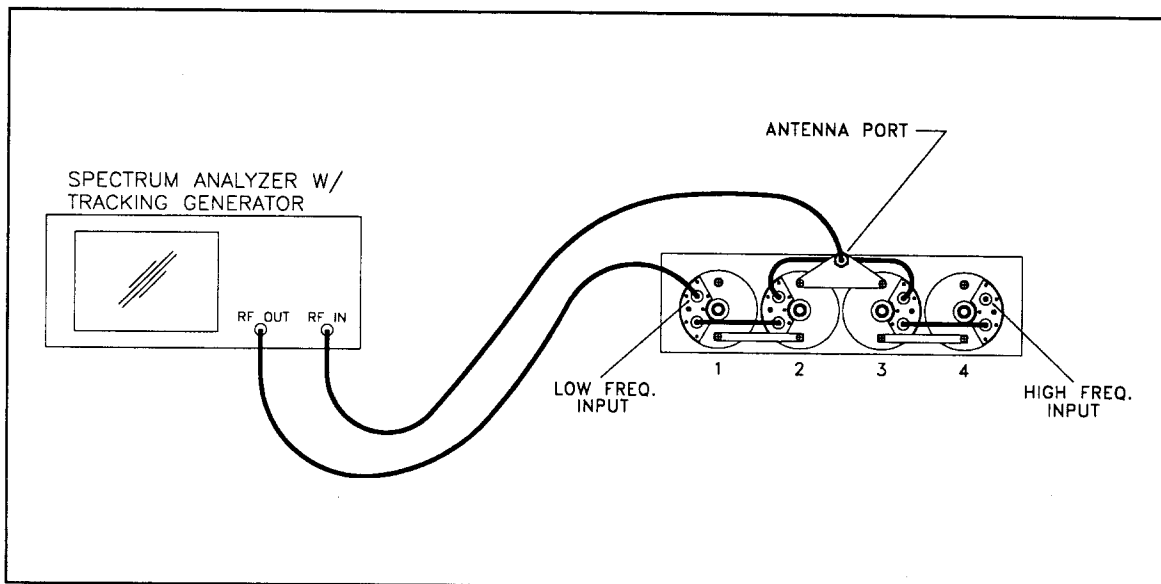
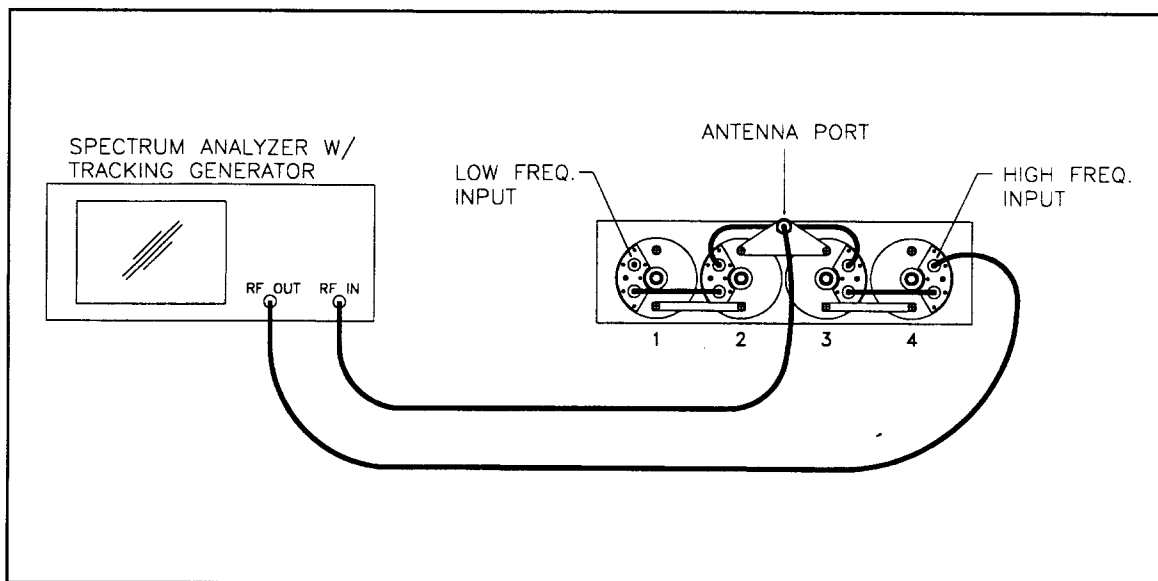

Figure 1. Hook-up for tuning of low pass.
Figure 2. Hook-up for tuning of high pass.
- (1) Connect the equipment as shown in Figure 1. Set the analyzer center frequency to the lower of the two frequencies and adjust the sweep setting as to include the full response curve (see Plot 1).
- (2) Loosen the hex nut which locks the threaded tuning rod of the four cavities and then rotate the threaded tuning rod of cavities 1 & 2 for minimum loss into the analyzer at the pass frequency.
- (3) Remove the dust covers on each of the four capacitors. The capacitors are located between the connectors on each cavity. Adjust the capacitors on cavities 1 & 2 so as to obtain a symmetrical response about the center frequency as shown in Plot 1.
- (4) Connect the equipment to the duplexer as shown in Figure 2. Set the analyzer to the higher of the two frequencies.
- (5) Rotate the threaded rods on cavities 3 & 4 for minimum loss into the analyzer at the pass frequency.
- (6) With analyzer still tuned to the higher frequency, adjust the capacitors on cavities 3 & 4 to obtain a symmetrical response about the center frequency as in Plot 1.
- (7) Check the analyzer center frequency to be sure it is still adjusted to the higher frequency and leave equipment as in Figure 2.
- (8) Rotate the threaded tuning rod of Cavities 3 & 4 for minimum loss at center frequency into the analyzer. (See Plot 2) Tune one cavity then the other since there is some interaction between the two cavities.
- (9) Reconnect the equipment as shown in Figure 1.
- (10) Set the analyzer center frequency to the lower of the two frequencies.
- (11) Rotate the threaded tuning rod of Cavities 1 & 2 for minimum loss at center frequency into the analyzer. (See Plot 3)
- (12) Tighten the hex nuts which lock the tuning rods of Cavities 1 & 2.